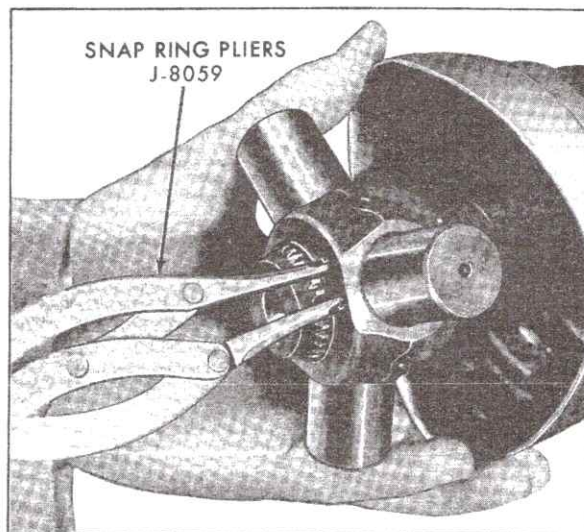

Fig. 3-58 Removing Spider Snap Ring
8. Wipe excess grease from end of axle shaft to gain access to snap ring and remove spider outer snap ring as shown in Fig. 3-58.